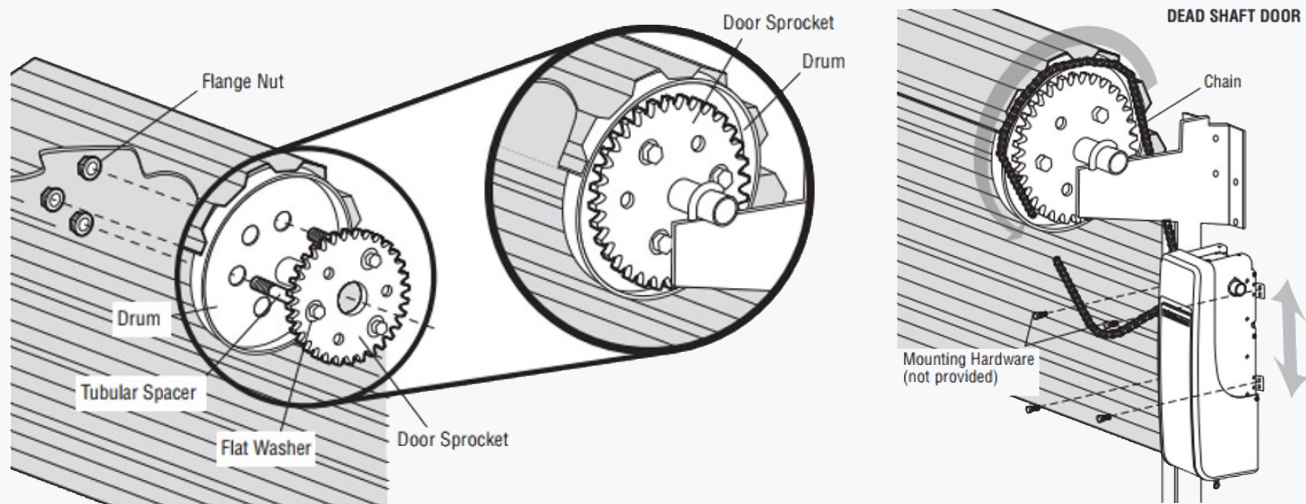

figure 10
- ✦ Install sprocket per manufacturers instructional manual, see example in **Figure 10**.